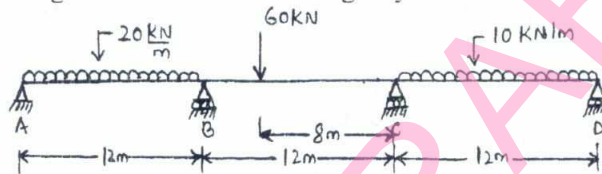

Fig.Q6 (20 Marks)
- 6 Analyze the continuous beam shown in Fig.Q6 by flexibility matrix method and sketch the bending moment diagram. Assume flexural rigidity to be constant throughout the beam.